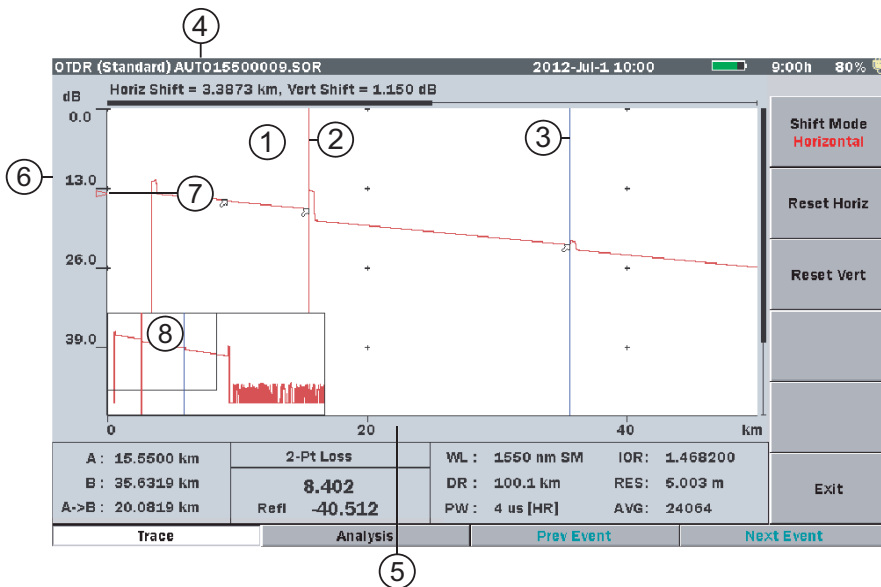

Figure 4-11: Trace Graph – OTDR (Standard) Mode
The Trace Waveform (or Trace) is the downward sloping line going from left to right that connects the data points collected during a test. See item 1 in Figure 4-11.
The cursors (see items 2 and 3 in Figure 4-11 on page 4-31) are the two vertical lines that extend from the top to the bottom of the trace graph. The cursors allow you to extract power and distance information from the trace graph. The active cursor is displayed in red and the inactive cursor is displayed in blue.
These values (see item 4 Figure 4-11 on page 4-31) in are only displayed when some type of shift is in use.
The vertical axis scale (see item 6 in Figure 4-11 on page 4-31) is located on the left side of the trace graph and is expressed in dBs, while the horizontal axis scale (see item 5 in Figure 4-11) is located at the bottom of the trace graph and is expressed in the distance unit as set on the Preferences screen. See “Distance display Units” on page 4-4 for details.
The dB level indicator (see item 7 in Figure 4-11 on page 4-31) denotes the intersection of the active cursor and the trace level.